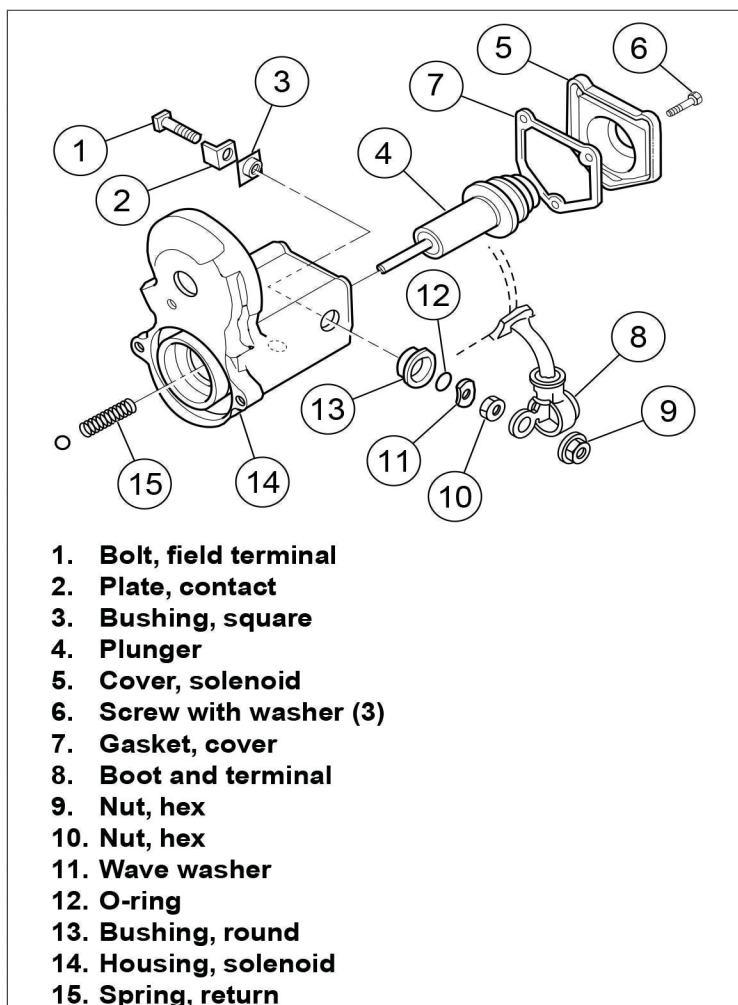

Figure 1. Solenoid Plunger and Field Terminal
1. See Figure 1. Remove boot (8) from copper field terminal bolt (1).